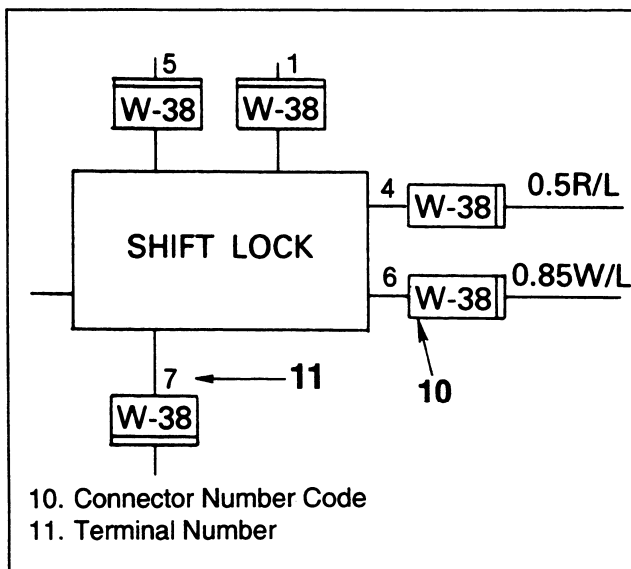

Figure 33. Number Code and Terminal Number
A Connector is identified with a number code (10) (figure 33).
The applicable terminal number (11) is shown for each connector (figure 33).